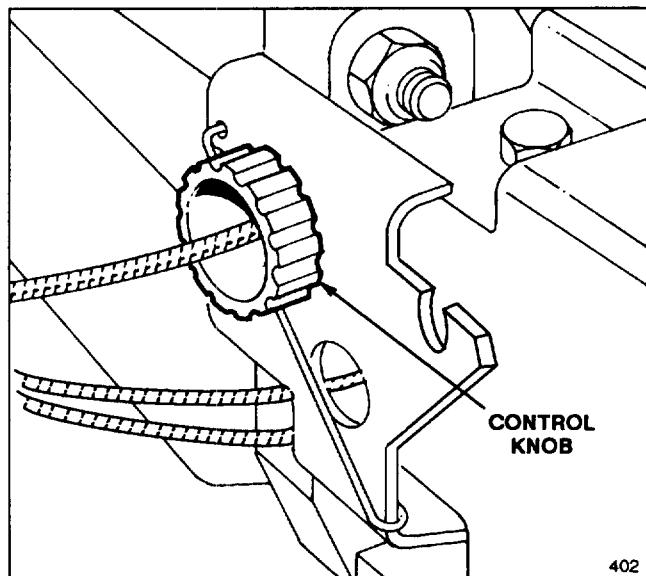

Figure 19
1. ADJUSTMENT (Fig. 19) — Rotate control knob clockwise 1/2 turn if mower does not self-propel. If mower creeps forward, rotate knob 1/2 turn counterclockwise to loosen belt.